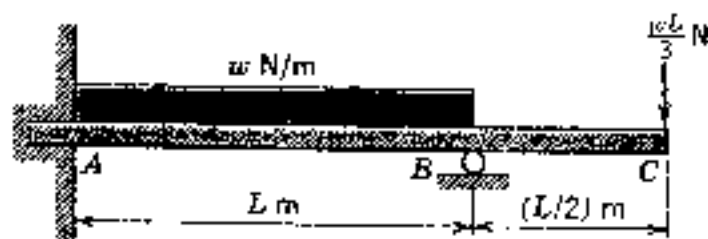

Fig. 5
5. A beam is loaded and supported as shown in Fig. 5. By using the energy method (Castigliano's theorem), determine